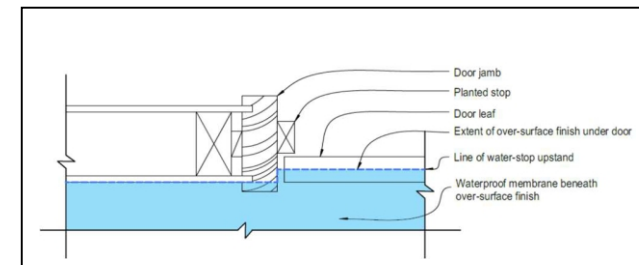

Figure 18: Plan view of water-stop under a door jam
- ◆ Figure 18: Plan view of water-stop under a door jam